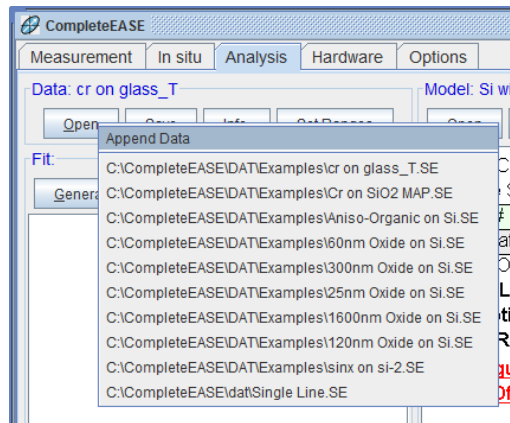

Figure 9-2. Right-click menu for 'Open' from Data: panel, gives access to "Append Data" and the Recent List of Data Files to open.
(R): “Append Data” file to existing data, as shown in Figure 9-2. The data files must share the same wavelengths.
(R): Recent List of Data files to open, as shown in Figure 9-2.